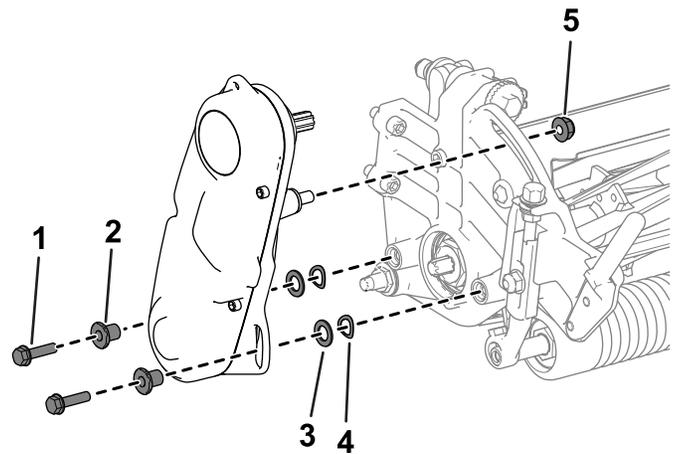

Figure 3
- Remove the hardware that secures the reel-drive assembly to the side plate (Figure 3).
- Remove the reel-drive assembly, flat washers, spring washers, and spacers from the side plate (Figure 3).